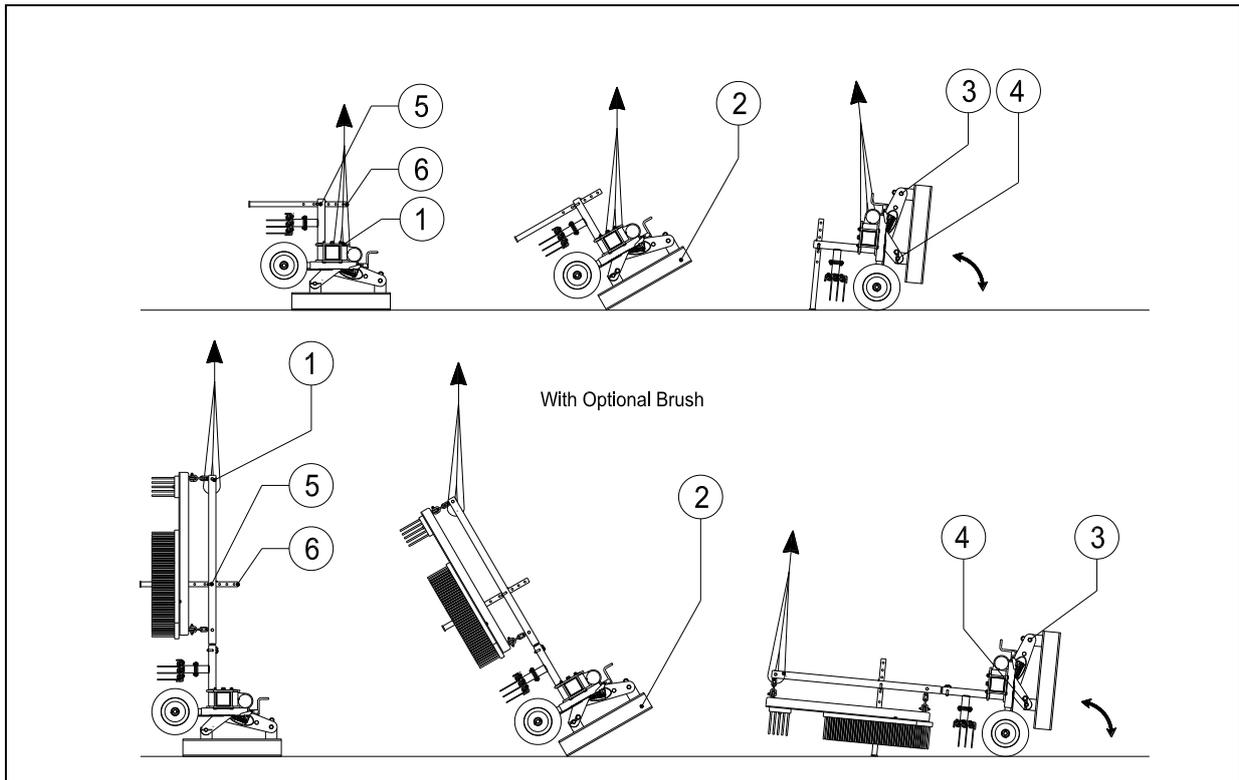

Fig. 6
**Keep a distance of at least 4 metres!** (Fig. 6).
The machine is standing vertically on the pallet. To remove the pallet and lay the machine horizontally on the ground, proceed as follows (see Fig. 6):